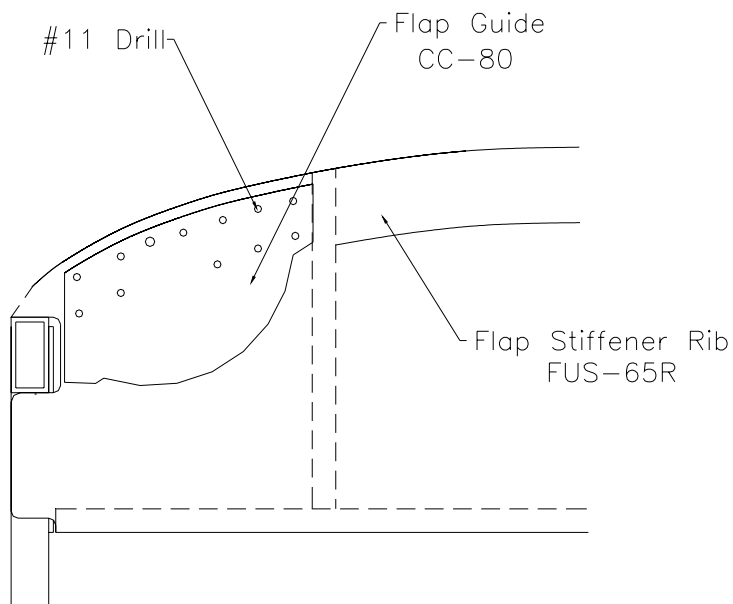

Figure 20.12.7
- 12) Drill eleven #11 holes to attach flap guide to rib. Figure 20.12.7.